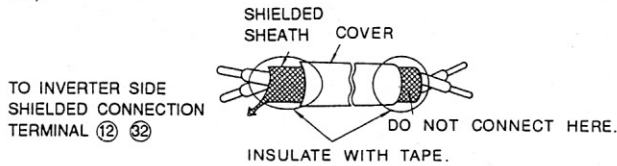

Fig. 3 Preparation of Shielded Cable Ends
- (1) Separate control signal wiring (terminal TC1 to TC3) of AI-14U from main circuit wiring or other power lines.
- (2) Use shielded cable for control signal wiring and prepare its terminal ends as shown in Fig.3 in order to prevent malfunction caused by noise. Wiring length must not exceed 10m.
- (3) Connect terminals, which are not used for control signal input terminal TC1 or TC2, to 0V (terminal TC3).